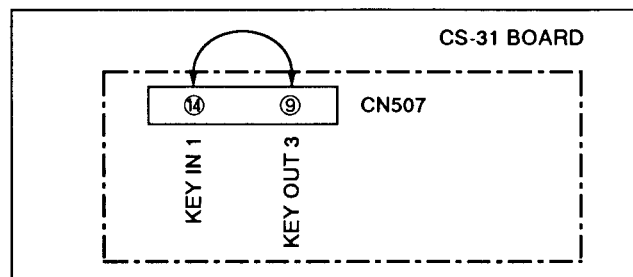

Fig. 9-2.
As the video signal obtained from the pattern generator is used as an adjustment signal during electric adjustments, ensure that this video output signal is within the specification. Connect the oscilloscope to pin ⑧ of CN400 on the VA-71 board, and check that the amplitude of the sync signal of the video signal is approximately 0.3V, the amplitude of the video section is approximately 0.7V, the amplitude of the burst signal is approximately 0.3V and flat, and that the level ratio of the burst signal and the [red] signal is 0.30: 0.66. The video signal (color bar) used for electric adjustments is shown in Fig. 9-2.